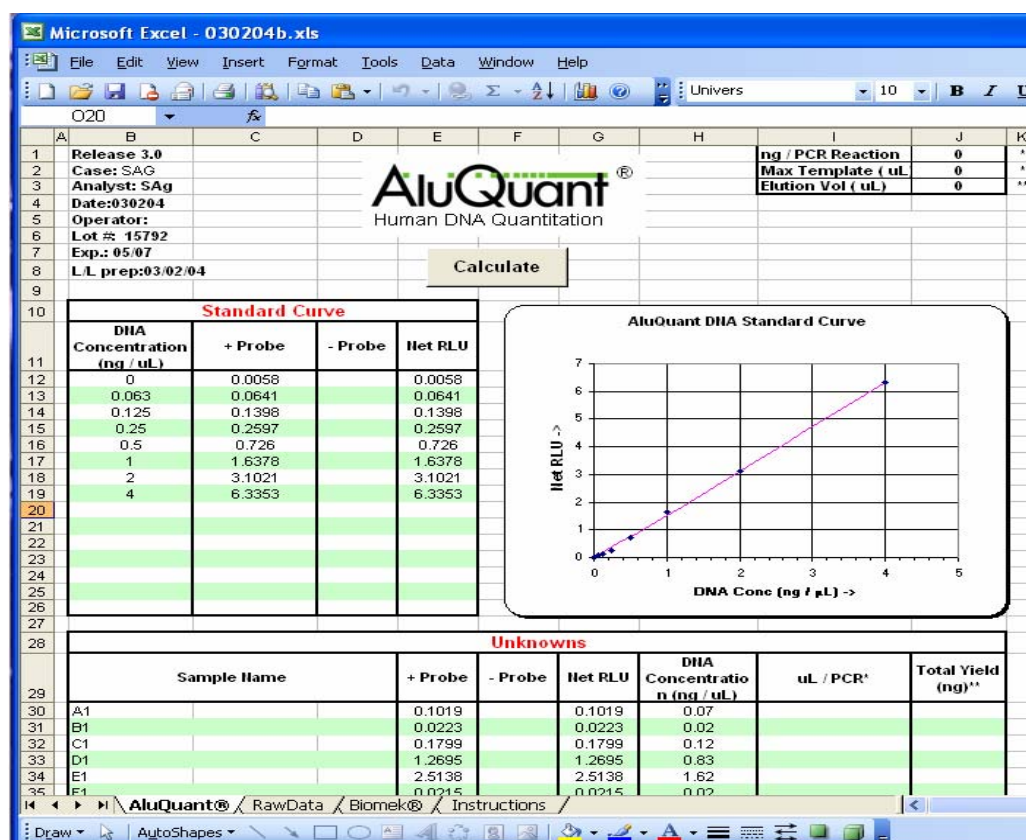

Figure 1. AluQuant® v3.0 data file
5.4.1 Open the AluQuant® v3.0 (AQ3.0) file (e.g., DATE, OPERATOR's Initials, Run Time – AM or PM, if necessary robot initial) located on the "C" drive, containing the concentration data for the plate of DNA extracts of interest that will be prepared for amplification set up (Figure 1). At the bottom of the AluQuant® calculator spreadsheet select the BioMek® tab to open the import data screen.